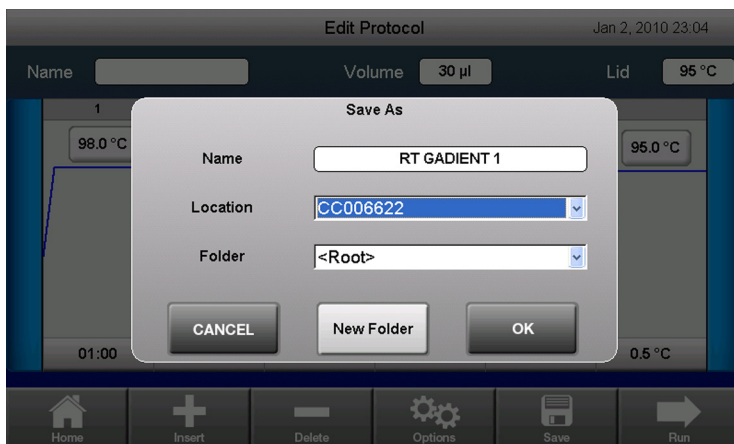

Figure 39. Save As window.
- Once a protocol has been created, you have the option to save it. Touching the **Save** button will display the **Save As** window in which the Name can be entered, and the Location and Folder specified (Figure 39). Touch **OK** to save.